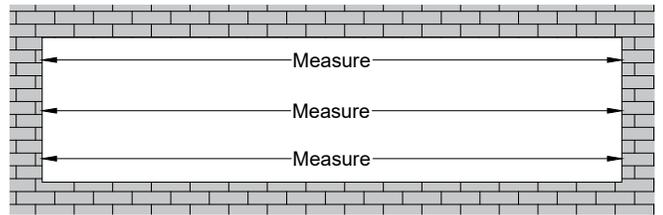

Fig 23.2
- B. Measure the width of the opening at the top, middle and bottom. Select the smallest of these dimensions and subtract the left and right caulk joint width per approved shop drawings (1/4" min caulk joint at each jamb, 1/2" for SSG and Expansion frames). **SEE Fig. 23.2.**